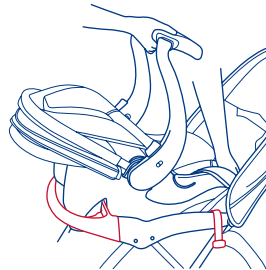

Fig. 18b
• Position the infant car seat so that it faces toward the rear of the stroller and the seat shell goes into the front tray and latches into place (Fig. 18b).